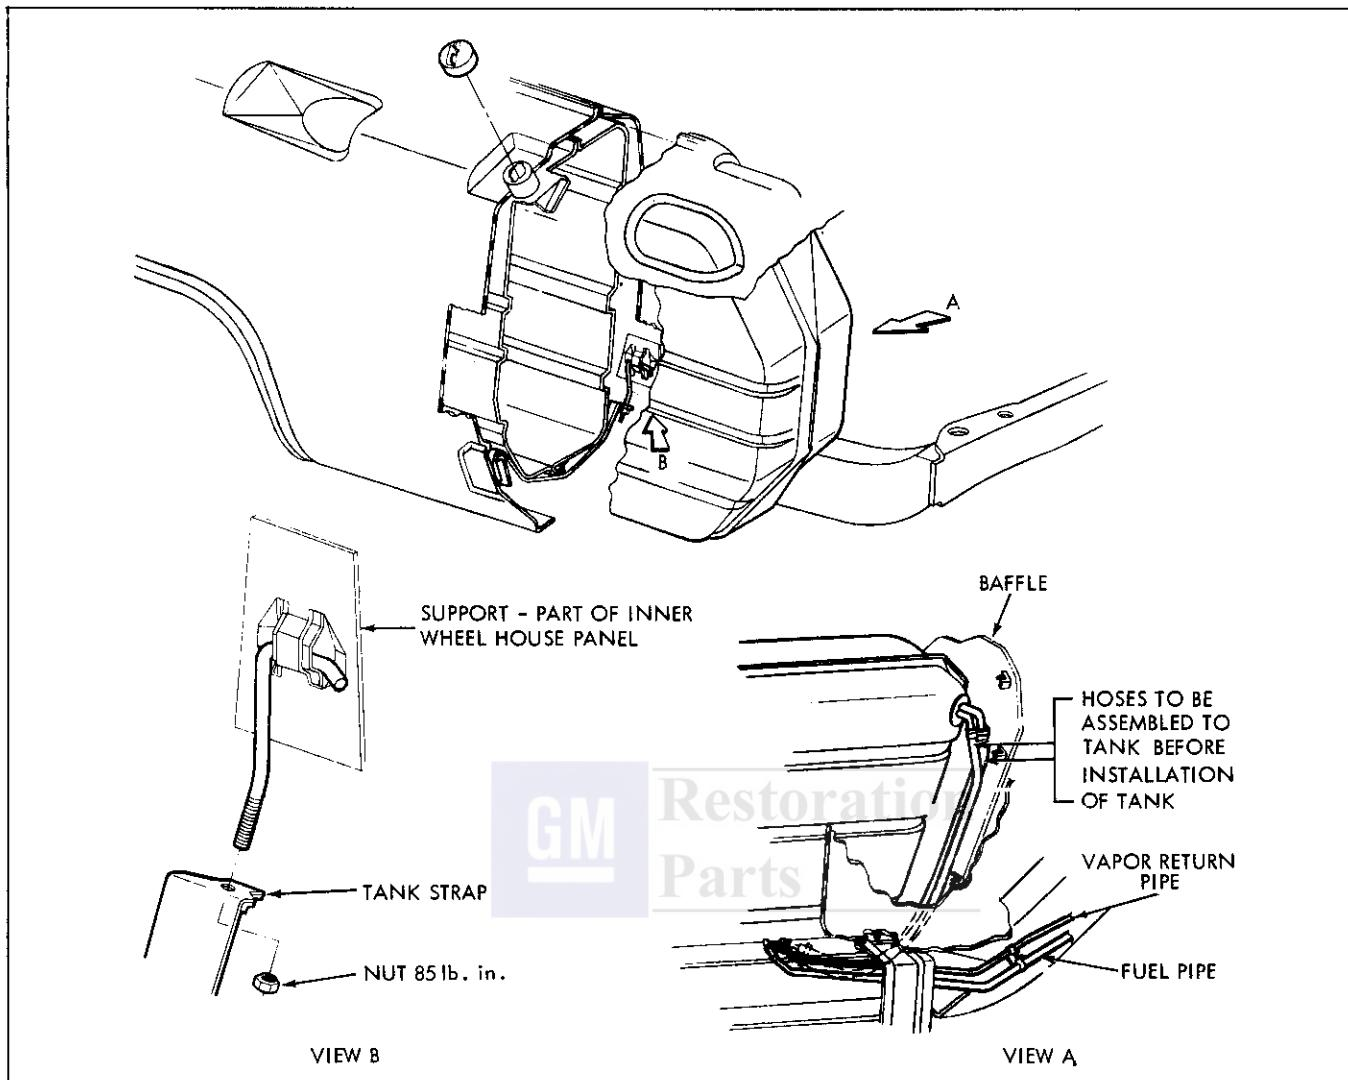

Fig. 8-4 Installation of Fuel Tank Pontiac Station Wagon
FUEL TANK—REMOVE AND REPLACE (STATION WAGON)—PONTIAC AND TEMPEST (Figs. 8-4 and 8-5)
6. Remove nut holding retainer strap to hook bolt and remove tank, Fig. 8-4 or 8-5.